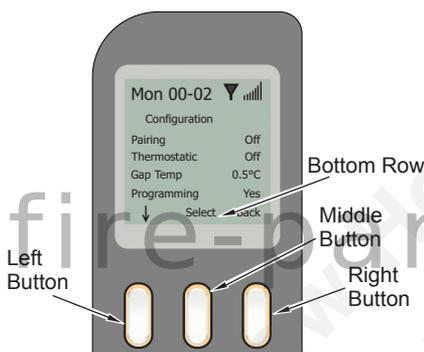

Figure 51 - Screen Changes
- RIGHT (Back) button goes back to the previous screen (see Figure 51).
If "Manual" is pressed, the flame setting appears as the selected setting. In the bottom row, ↓ and ↑ appear, indicating that the flame level can be changed by pressing the left or middle button. Pressing "Back" (right button) returns to the initial screen (see Figure 51, page 25).